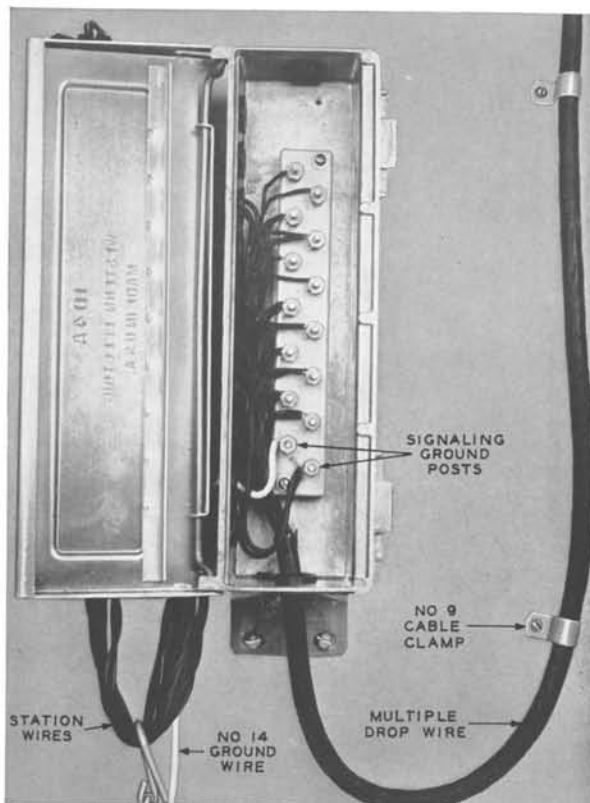
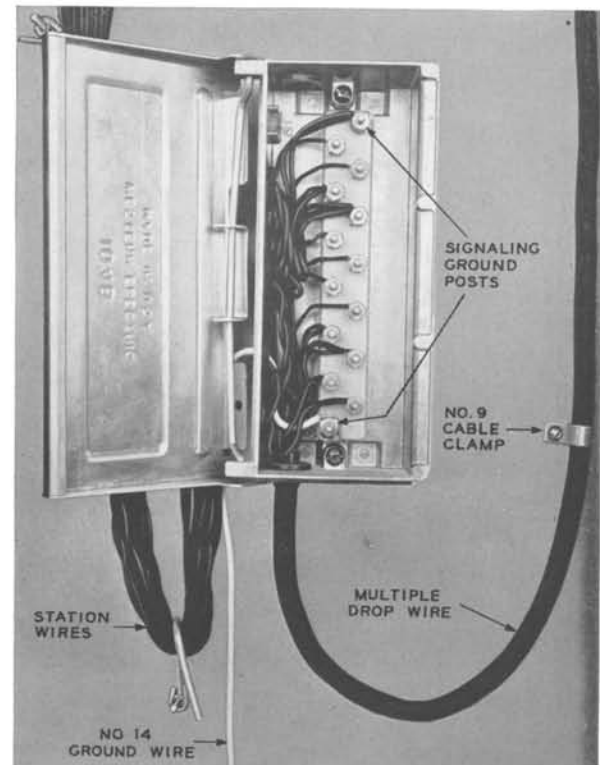

FIG. 3—WIRING OF 104A WIRE TERMINAL
FIG. 4—WIRING OF 104B WIRE TERMINAL
**5.01** The 104A wire terminal shown in Fig. 3, and the 104B wire terminal shown in Fig. 4 are wired with multiple drop wire, but may also be used with separate block or drop wires.